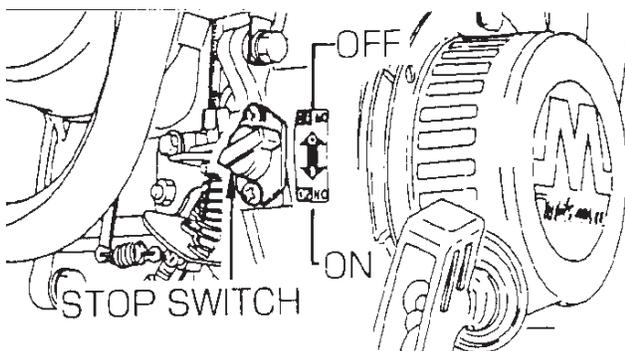
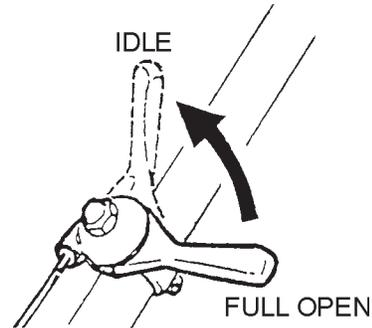

Figure 5. Engine On/Off Switch
Figure 10. Throttle Lever (Idle)
2. Set the engine ON/OFF switch (Figure 5) to the "ON" position (start).
- Move throttle lever quickly from the **FULL OPEN** to **IDLE** position (Figure 10) and run the engine for three minutes at low speed. After the engine **cools**, turn the engine *start/stop* switch to the “**OFF**” position (Figure 5) until engine comes to a complete stop.
- Move the throttle lever quickly to the **IDLE** position, and turn the engine start/stop switch (Figure 5) to the **STOP** position.